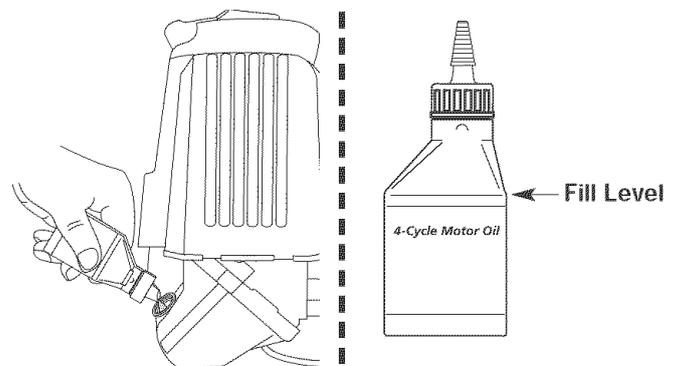

Fig. 18
**NOTE:** Use the bottle and spout saved from initial use to measure the correct amount of oil. The top of the label on the bottle measures approximately 3.4 ounces (100 ml). Check the level with the dipstick. If the level is low, add a small amount of oil and recheck. Do not overfill (Fig. 18).
8. Swing the cover to the left until the tab on the air filter cover snaps into place in the slot on the left side of the air filter housing (Fig. 18).